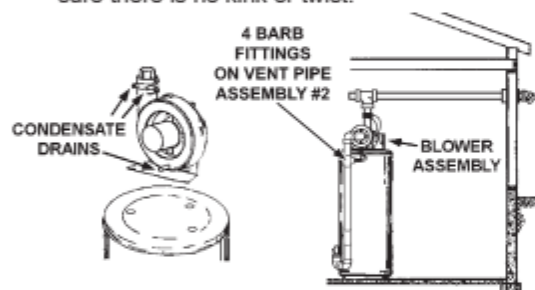

Figure 15. Blower Assembly Condensate Drains and Barb Fittings
3. Condensate drains from three locations on blower assembly. See *Figure 15*. One flexible hose runs from bottom of blower housing; two run from the ports of rubber connector at the outlet of blower. All these three condensate hoses are connected to barb fittings at vent pipe assembly #2. The hose from bottom of blower housing is clamped by two clamps and the two hoses from rubber connector are harnessed by another clamp. Make sure there is no kink or twist.